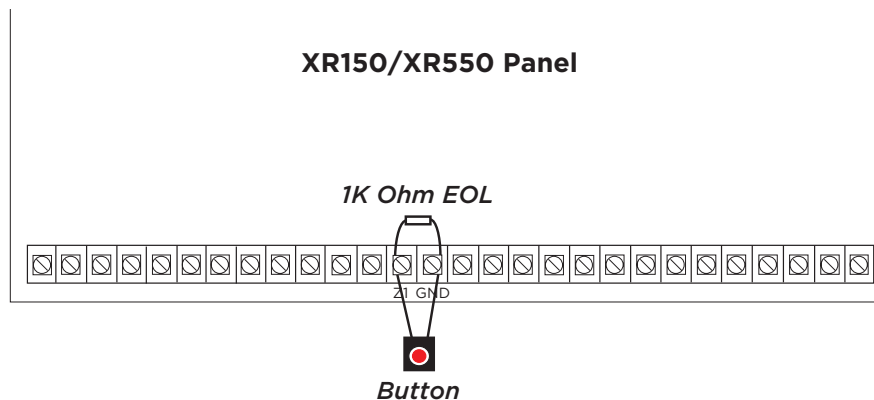

Figure 1: Button Placement
4. Remove the remaining backing from the square adhesive piece on the push-button switch. Place the Model 303 at the location indicated on the label with the wires upward toward the terminal block. Press the switch firmly to the label as shown in Figure 1.
Refer to Figure 1 as you wire the button.